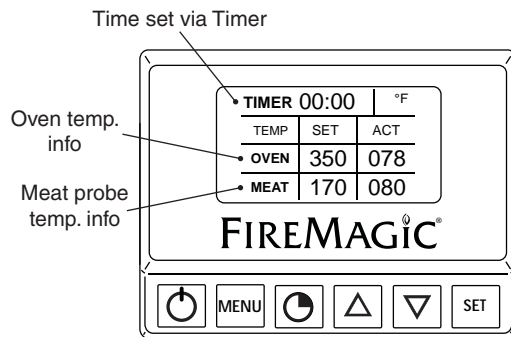

Fig. 24-3 Default screen detail
**Press the power button to turn the thermometer ON.** The default screen will be displayed. Temperatures for the oven and meat probe will be shown (see Fig. 24-3).